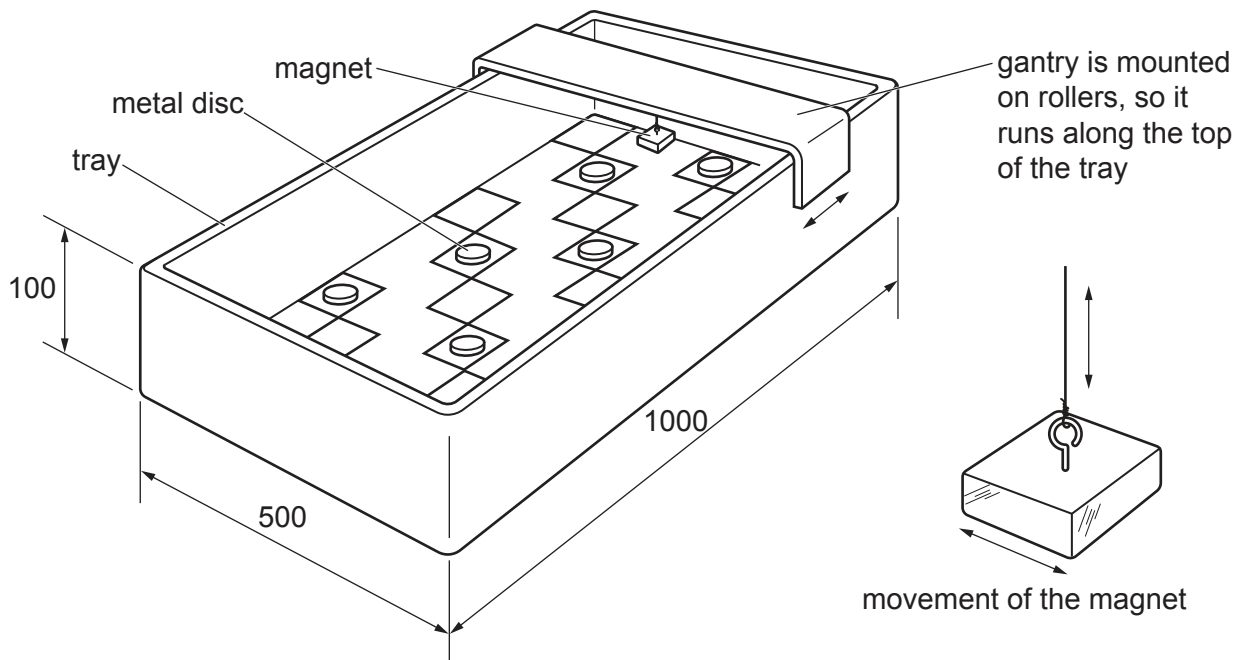

Fig. 9.1
- 9 Fig. 9.1 shows an incomplete design for a child's game. The gantry moves along the top of the tray and then lowers the magnet to pick up the metal discs.